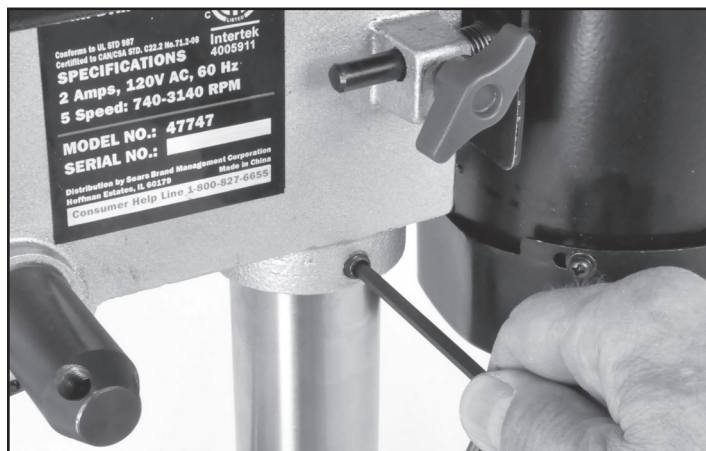

FIG. 4
4. Tighten the drill press head into position on the column by locking the hex screws on both sides of the casting. FIG. 4.